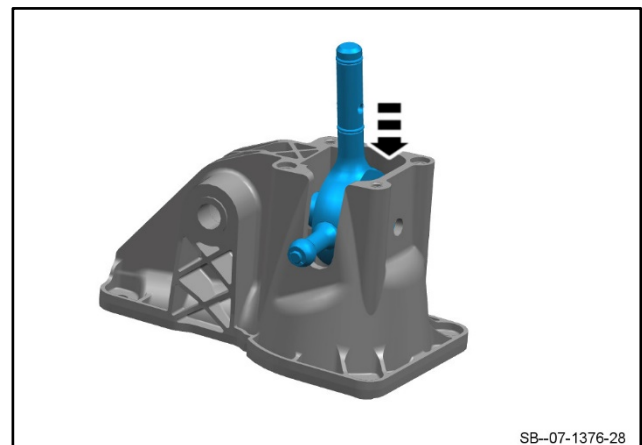

Figure 10
11. Install the new gear selector lever into the shifter tower (refer to Figure 10).